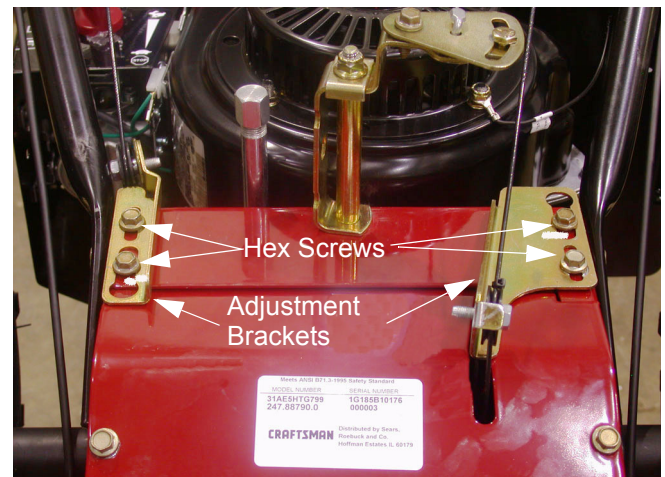

Figure 2.3
- 2.3. Loosen the hex screws that secure the bracket that guides the cable needing adjustment (3/8" wrench). See Figure 2.3.